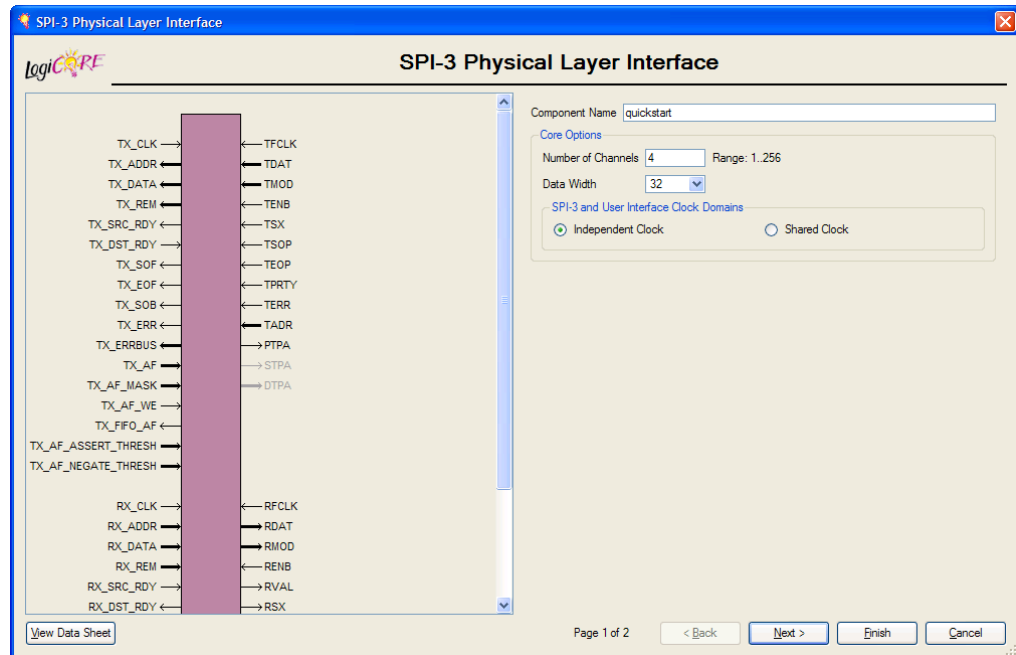

Figure 3-1: SPI-3 PHY Layer Main Screen
6. Double-click the core to display the SPI-3 PHY Layer Interface main screen (Figure 3-1).